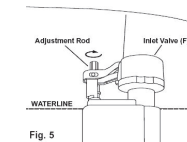

Fig. 5
6. To set the water level, connect the water supply, set the float cup level with the waterline by turning the adjustment rod on the inlet valve (F) so that the float sits level with the float cup, ensure the float (when raised) does not eject from the float cup. (see Fig. 5)